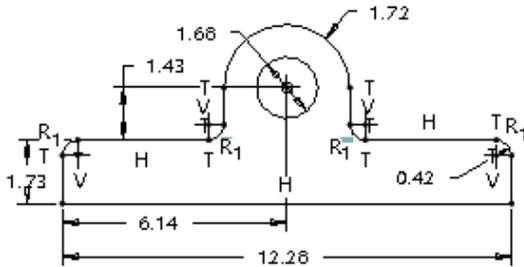

Figure 2-43 Sketch after dimensioning
- d. Dimension the sketch, refer to Figure 2-43.